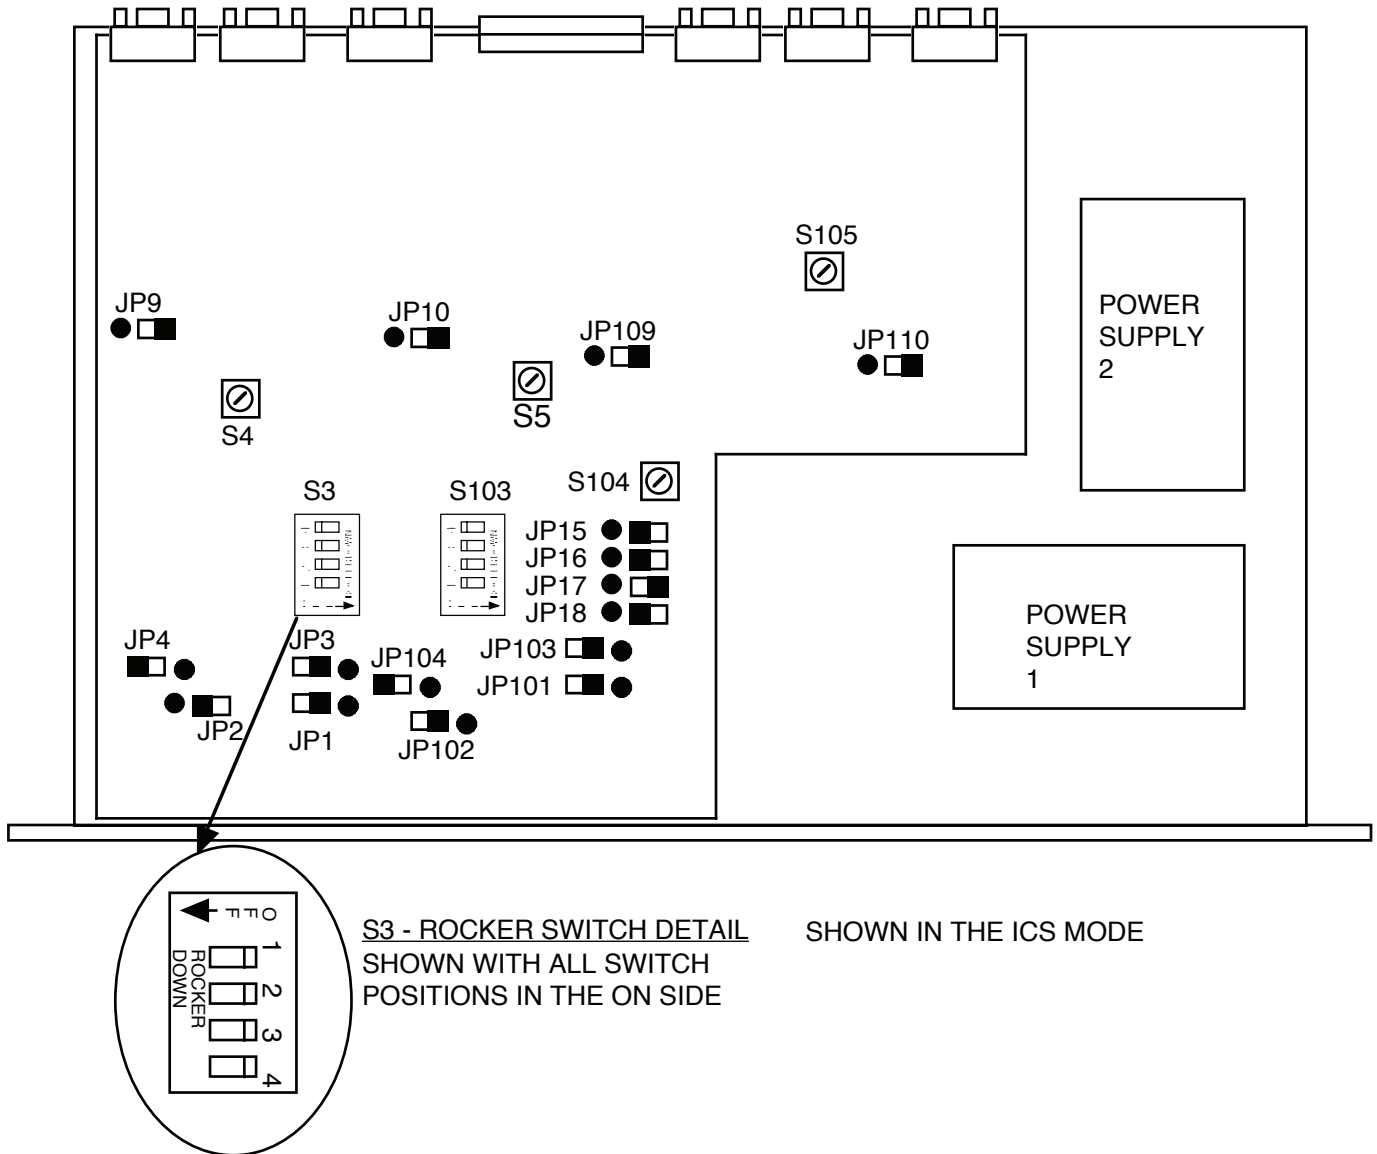

FIGURE 2.3 1582-14 PCB Settings Parts Locations
JP15, JP16, JP17, JP18 - Alarm clock frequency 3-pin jumper FACTORY SET to provide clock for the time out alarm circuitry. **DO NOT ADJUST THESE!** Figure 2.3 shows the correct positions..
2.5 Time Out Alarm Settings - Switches S4 (CH2, SWITCH A), S5 (CH1, SWITCH A), S104 (CH2, SWITCH B), and S105 (CH1, SWITCH B) determine the length of time after clock is removed before a loss of clock alarm is indicated. Use a small flat blade screwdriver or tuning tool to carefully adjust these switches to the desired length in 0.1 second increments (position 1 = 0.1 seconds, position 2 = 0.2 seconds, etc.). (see Figure 2.3)
2.6 Switch Mode Setup - The following gives the switch mode settings of the on board controls that can be changed in the field: **SWITCH A** JP1, JP2, JP3, JP4; S3; **SWITCH B** - JP101, JP102, JP103, JP104, S103 (Section 2.3, Figure 2.3). All shown with external **alarm = ground**.
- a. Set the on board controls as desired (Section 2.4, 2.6, Figure 2.3).